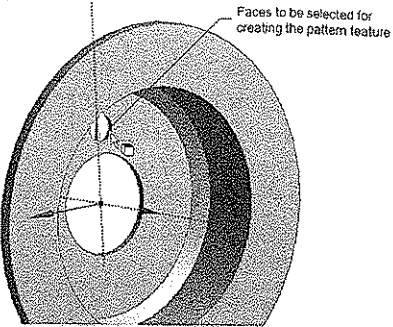

Figure 4-31 Partial view showing the selection of face of the circular hole
5. Select the circular face of the hole created earlier in this tutorial, as shown in Figure 4-31, and then choose the **Apply** button in the **Geometry** selection box to confirm the selection.